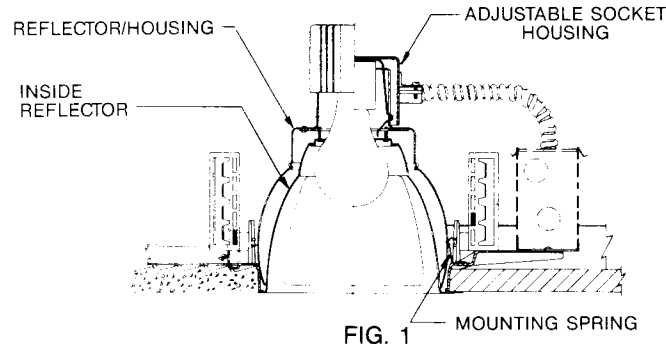

FIG. 1
A. INSTALL INSIDE REFLECTOR (FIG. 1)